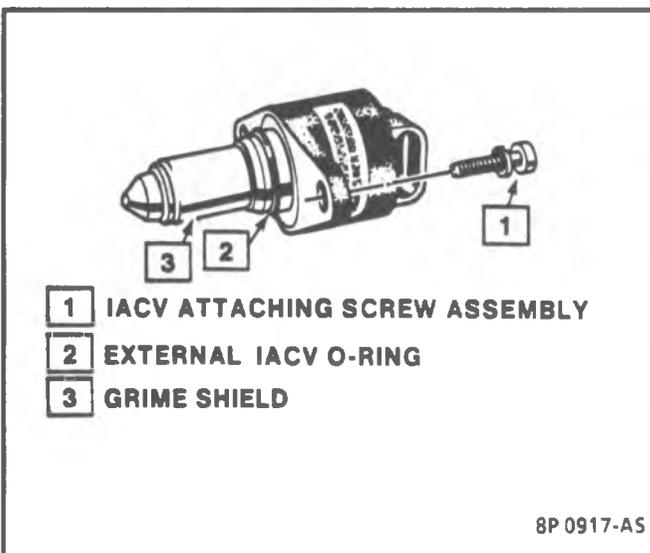

Figure 4-31 - Flange Mounted Type IAC Valve
- On flange-mounted units, remove screw assemblies (Figure 4-31)